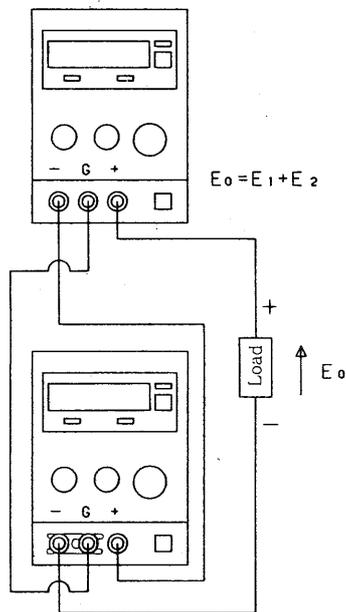

Figure 12
- In onnection in Figure 12, the output voltage is the sum of the output voltage of each power supply.
To eliminate the potential to case GND for each power supply, set the GND terminal of each power supply common and connect it to the desired potential. (Figure 12 shows (-) grounding.)